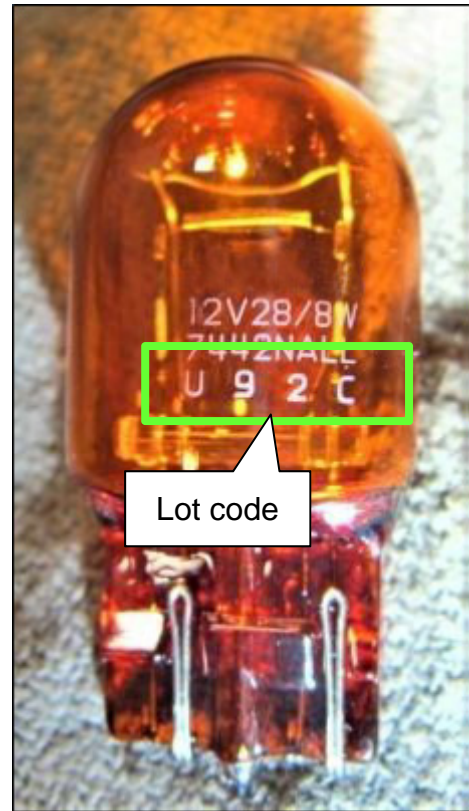

Figure 6
3. Locate the four character alpha numeric “lot code” of the bulb (Figure 6), and then write it on the repair order.